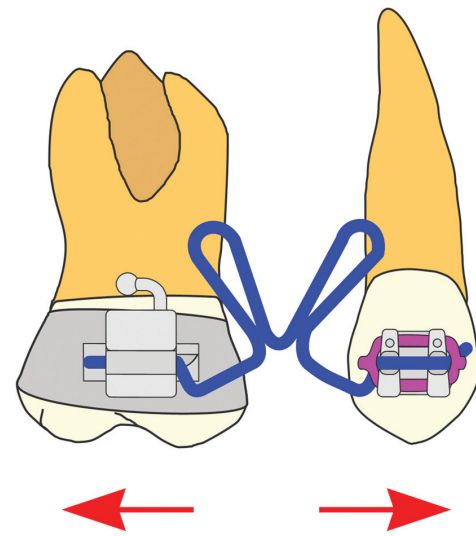

Figure 3
3. Insert K-Loop in place and ligate into premolar bracket. Place a cinch back bend mesial to the premolar bracket as shown. (Figure 3)